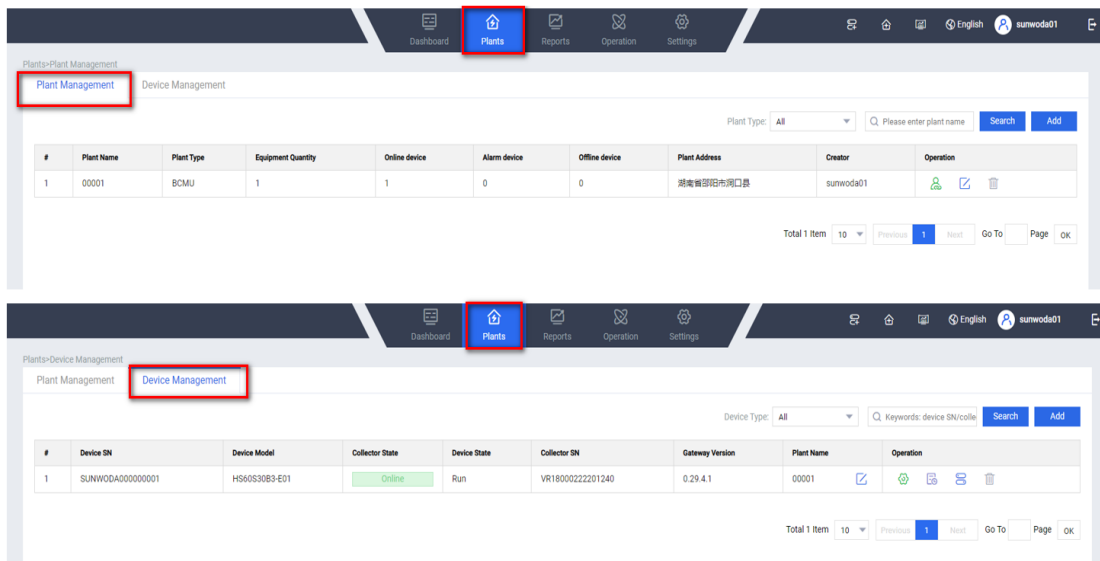

Figure 4.24
(2) You can refer to the location of the red box on the following page to view the site and equipment information (Fig. 4.24) .